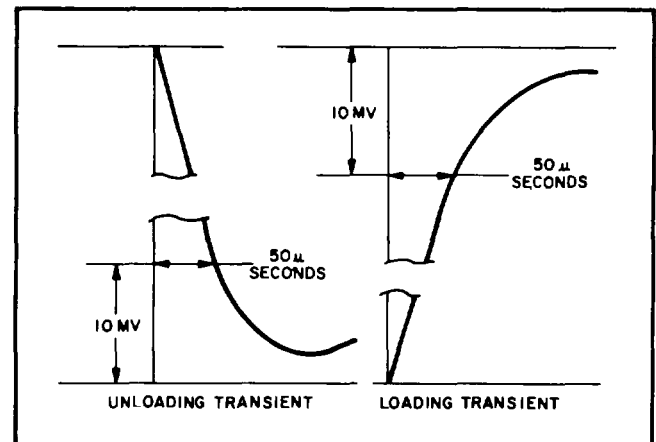

Figure 5-9. Transient Recovery Time, Waveforms
- Adjust 25K potentiometer until a stable display is obtained on oscilloscope. Waveform should be within the tolerances shown on Figure 5-9 (output should return to within 10mV of original value in less than 50 microseconds).